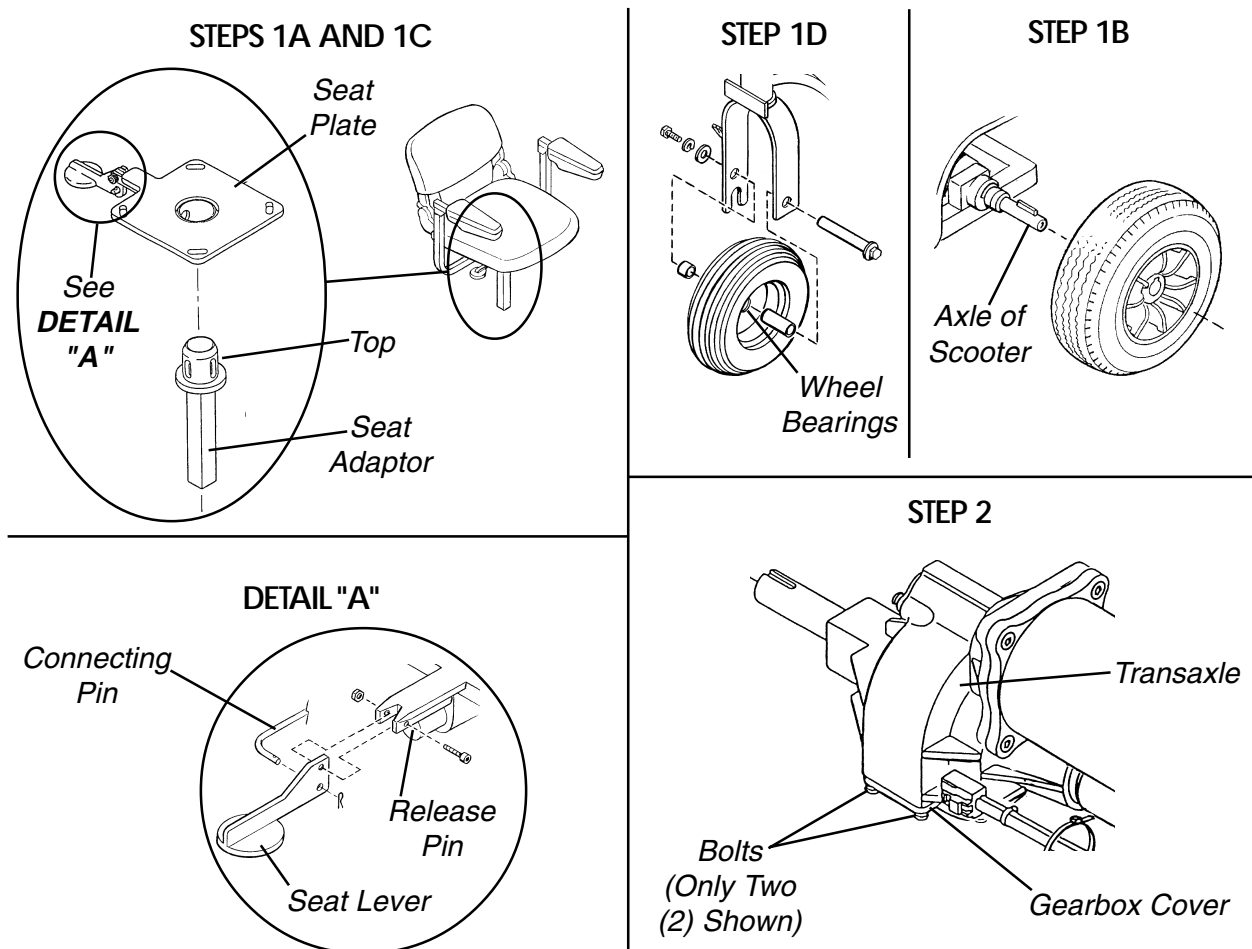

FIGURE 2 - LUBRICATION POINTS
Lubrication Points (FIGURE 2)
1. Every six (6) months the following components should be lubricated. Use a Teflon® lubricant. (FIGURE 2).
- A. Remove the four (4) bolts securing the gearbox cover to the transaxle and remove the gearbox cover.